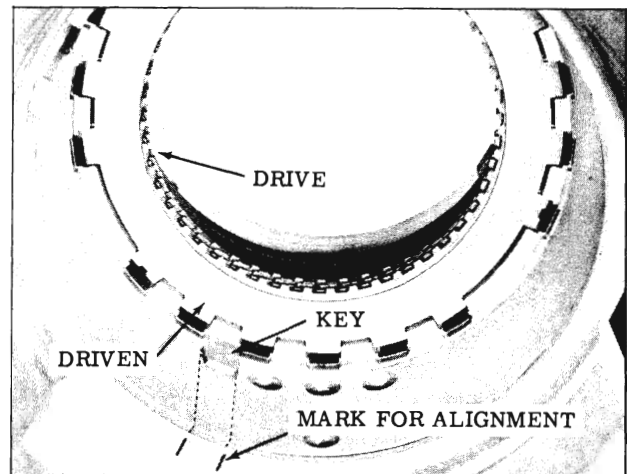

Fig. 3-96 Alignment Marks
5. Mark the case to indicate one side of the key to assist in alignment for installation of case support. (Fig. 3-96)